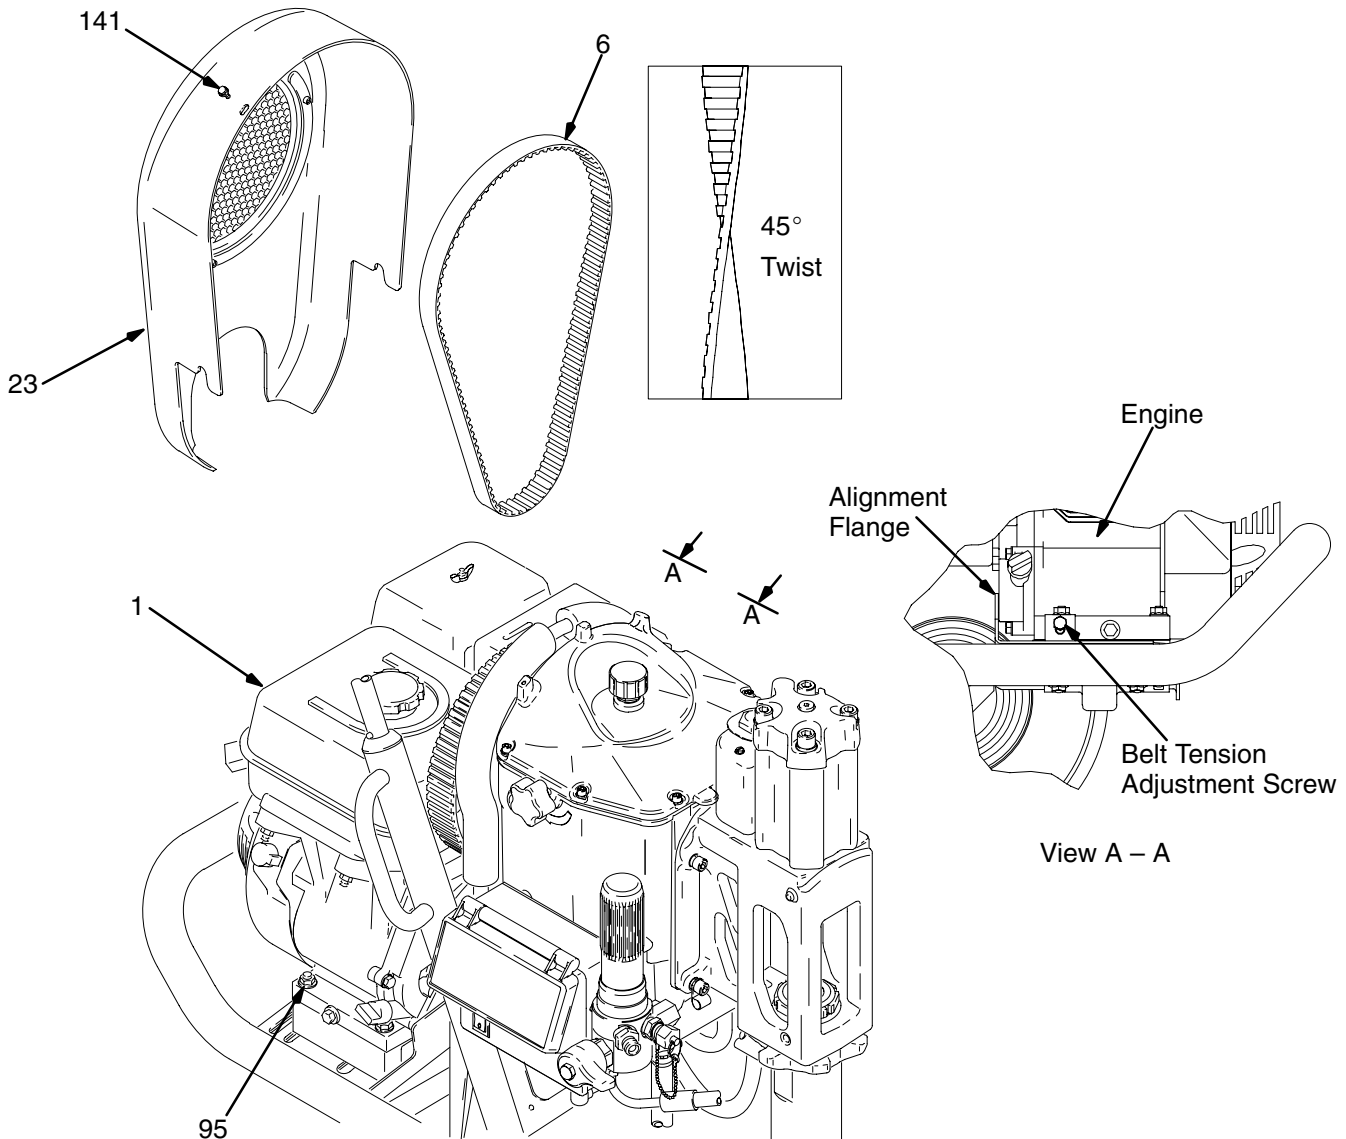

Fig. 3
3. Remove two screws (141) and fan shroud (23).
4. Remove eight screws (136), washers (81) and reservoir cover (50).
5. Remove cooler clip screw (141).
6. Loosen four engine mounting fasteners and belt tension adjustment screw (Fig. 3). Slide engine to left (rear view) to relieve tension on belt (6). Remove belt.
7. Remove two set screws (18) and fan (19).
8. Disconnect hydraulic tube (52) from elbow (54) and hydraulic motor manifold (46).
9. Disconnect strainer (25) with elbows (58, 30) assembled, from elbow (139).
10. Remove case drain tube (67).
11. Turn compensator stem (A) clockwise until stop. Loosen set screw (B). Pull compensator stem out. Remove holder (C), spring (D) and coupler (E).
12. Remove two pump bolts (94) from reservoir.
13. Lift hydraulic pump (2) up and toward front of reservoir to remove.
1. Fig. 3. Remove two screws (141) and slide shroud (23) up and off of sprayer.
2. Loosen four fasteners on underside of engine (1).
5. Remove belt (6).